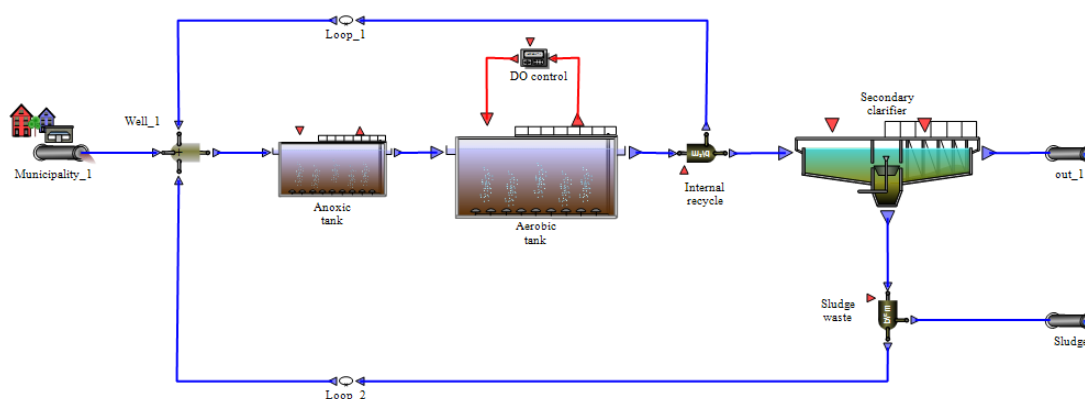

Figure 4.3 The plant layout for the TwoASU sample
6. Drag all the necessary Blocks from the Block Library to the Layout Sheet, i.e. an Input Block of type 'Municipal wastewater', a 3-way Flow Combiner, two Activated Sludge Units, two Pumps (2-way Flow Splitters), a Secondary Clarifier, a Controller of type 'PI controller', two Loop Breakers (optional), one Output Block of type 'Effluent' and one of type 'Waste' (Figure 4.3 and Table 4.1).